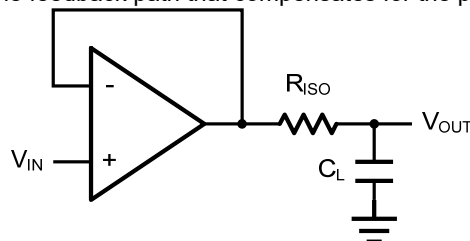
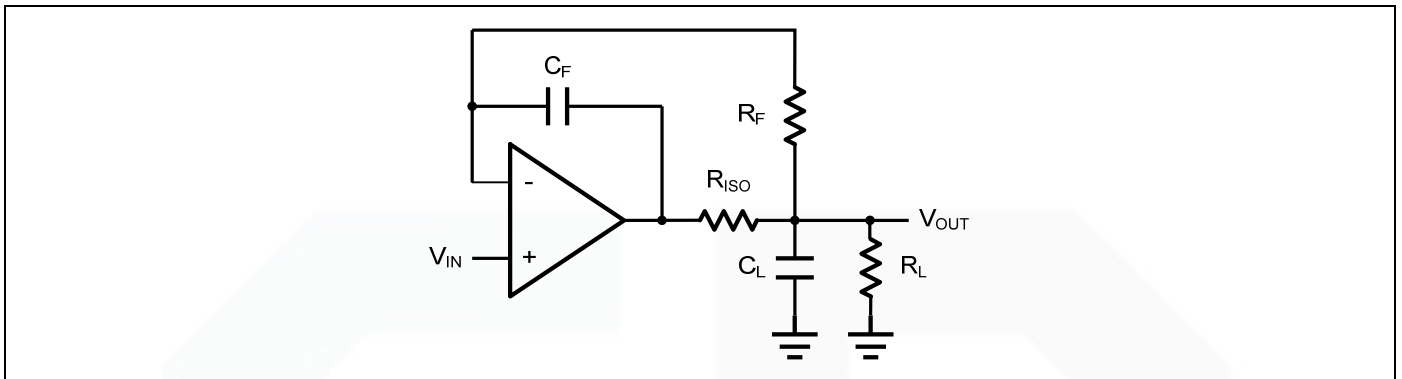

Figure 2 Indirectly Driving a Capacitive Load Using Isolation Resistor
Figure 3. Indirectly Driving a Capacitive Load with DC Accuracy
The MCP600X family is optimized for bandwidth and speed, not for driving capacitive loads. Output capacitance will create a pole in the amplifier's feedback path, leading to excessive peaking and potential oscillation. If dealing with load capacitance is a requirement of the application, the two strategies to consider are (1) using a small resistor in series with the amplifier's output and the load capacitance and (2) reducing the bandwidth of the amplifier's feedback loop by increasing the overall noise gain. Figure 2 shows a unity gain follower using the series resistor strategy. The resistor isolates the output from the capacitance
The circuit in Figure 3 is an improvement to the one in Figure 2.  $R_F$  provides the DC accuracy by feed-forward the  $V_{IN}$  to  $R_L$ .  $C_F$  and  $R_{ISO}$  serve to counteract the loss of phase margin by feeding the high frequency component of the output signal back to the amplifier's inverting input, thereby preserving the phase margin in the overall feedback loop. Capacitive drive can be increased by increasing the value of  $C_F$ . This in turn will slow down the pulse response.